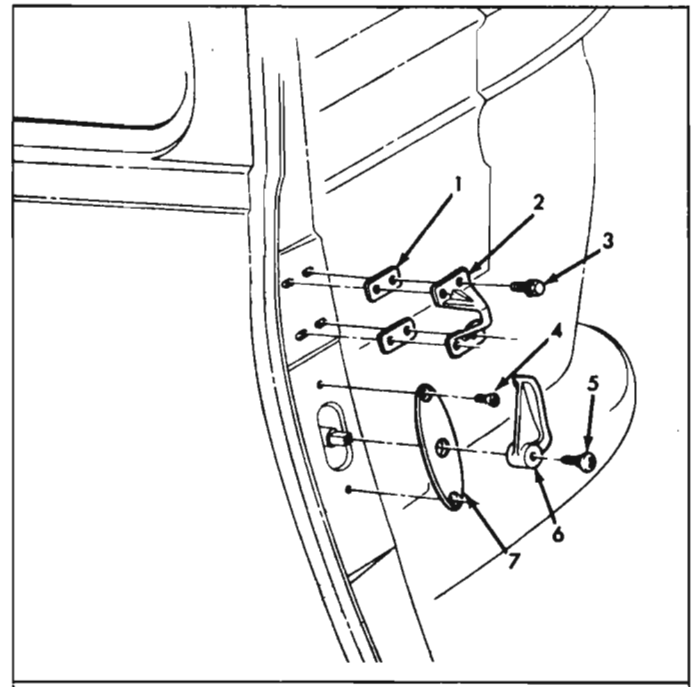

Fig. 10-82a—Rear Door Handle, Support and Right Door Striker
6. Remove left door handle retaining screw and remove handle (fig. 10-82a).
7. Remove outer support assembly (fig. 10-82a) and remove lock lever and shaft assembly.
1. Install lock lever and shaft assembly in door bracket and retain with outer support assembly (fig. 10-82a).